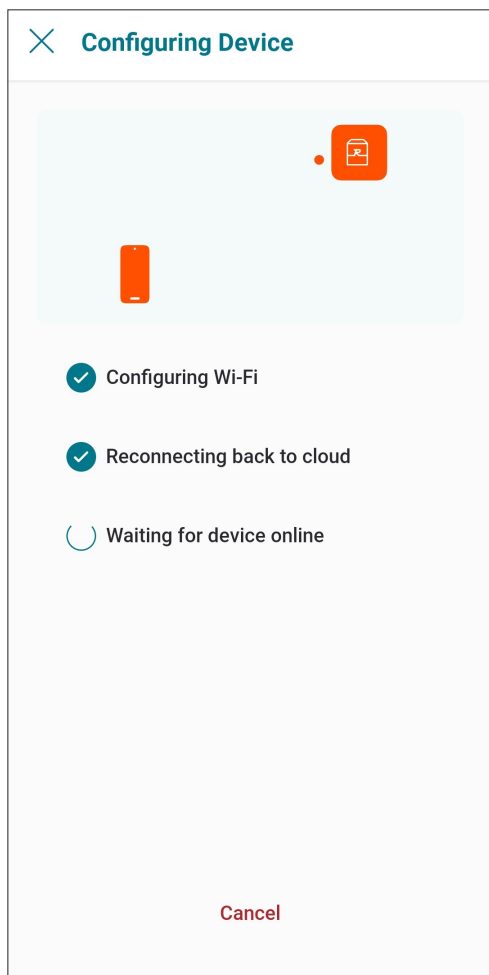

Figure 87. Configuring Device
7. Raymote app will provide the Wi-Fi credentials to your unit. This process may take a few seconds. See **Figure 87**.